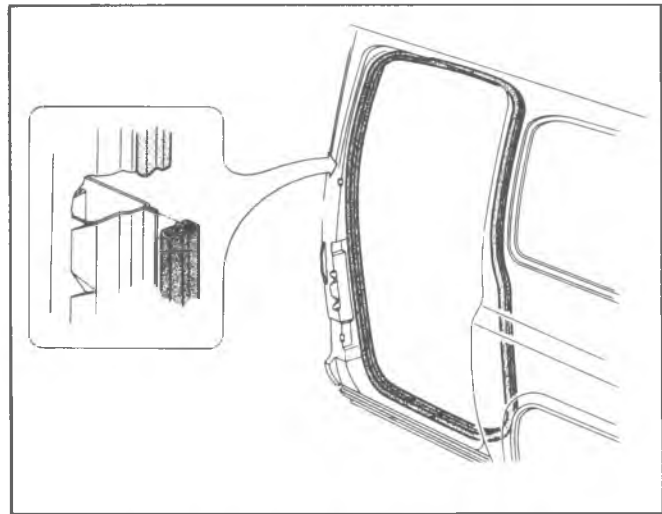

Fig. 44—Side Rear Door Weatherstrip
**WEATHERSTRIP—FIG. 44**
The procedure outlined in Front Door Weatherstrip may be applied to the Rear Side Door Weatherstrip, shown in figure 44.